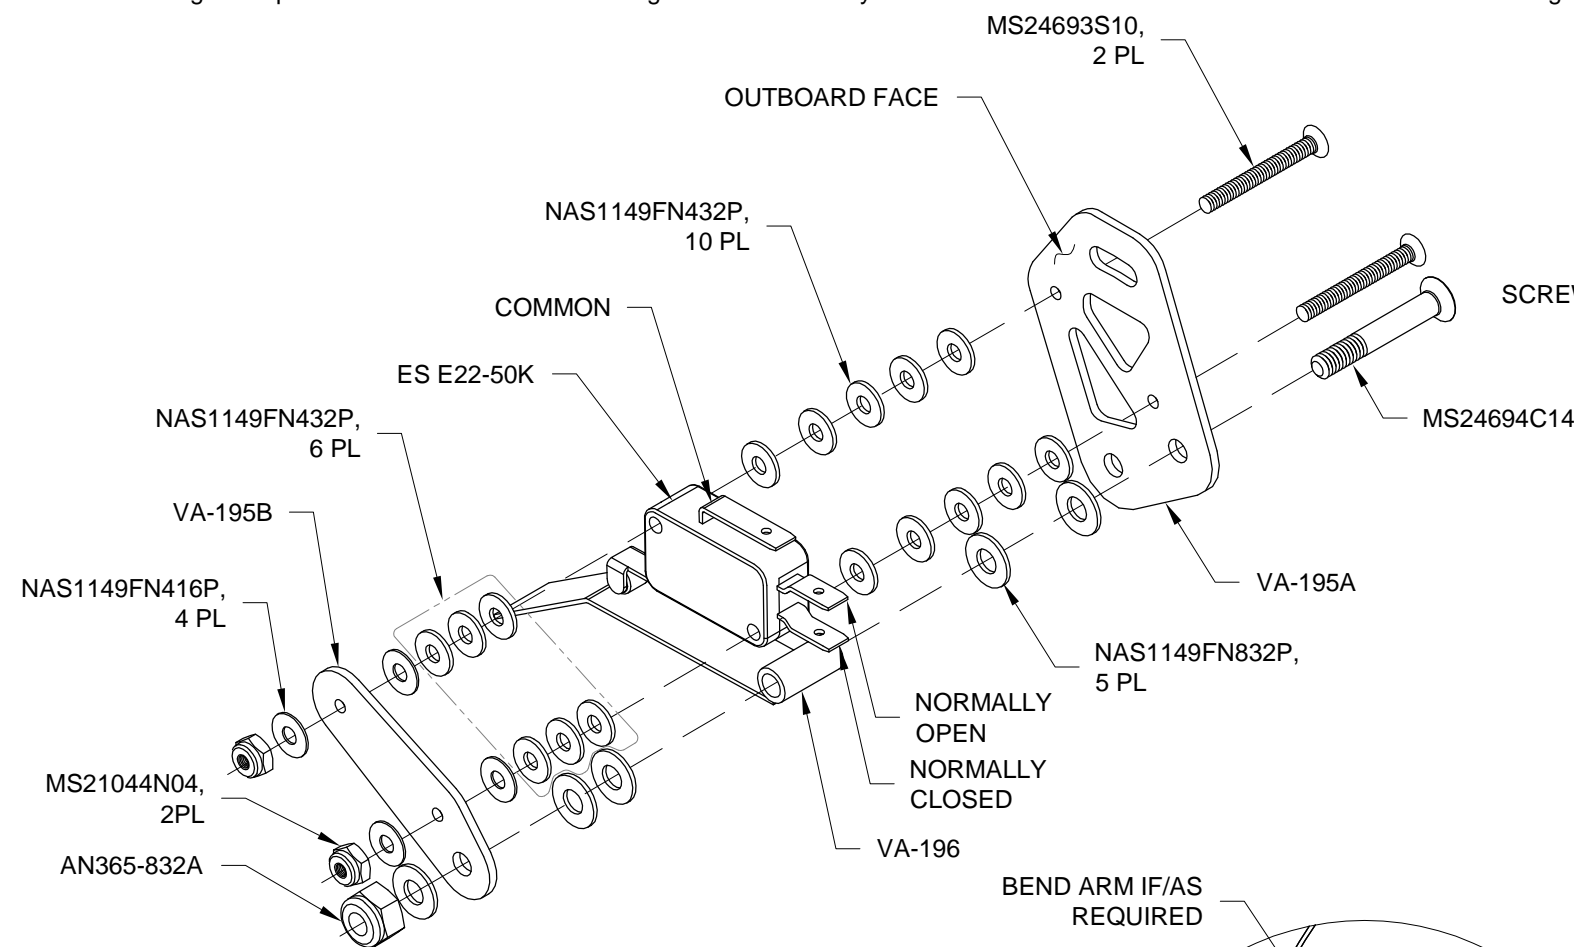

FIGURE 1: STALL WARNING SUBASSEMBLY
Step 1: Final-Drill .375 [9.5 mm] the tie-down hole (indicated in Figure 1) to allow a tie-down ring to be inserted through the W-00001-L Leading Edge Skin into the W-00006-L Main Spar Assembly.